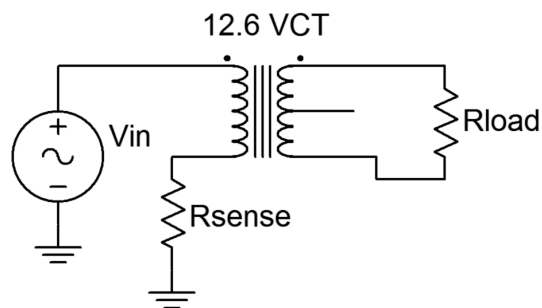

Figure 2
- Build the circuit of Figure 2 using $R_{\text{sense}} = 22 \Omega$, $R_{\text{load}} = 10 \Omega$ and $V_{\text{in}} = 5$ volt peak sine at 60 Hz. Place one scope probe across the load and the other across R_{sense} . Record the peak amplitudes in Table 2 and capture an image of the scope display.